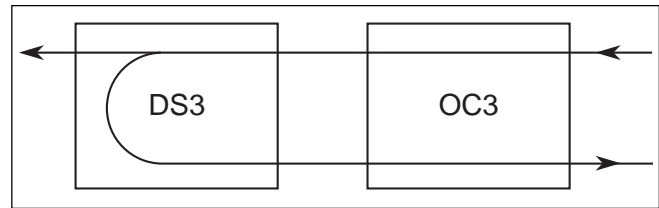

Figure 12. DS3 Local Loopback
4. **DS3 Local Loop** – Provides a loopback for each individual DS3 coming from the OC-3 network. Any combination of DS3s may be tested without affecting any other DS3. See **Figure 12**.